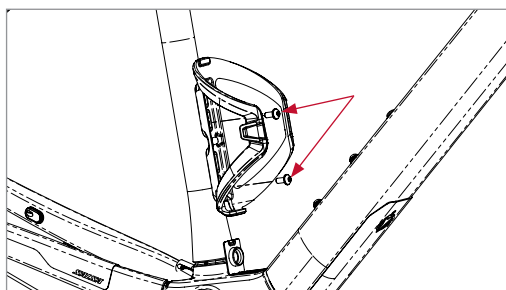

Figure 8
3. Reinstall the bolts to attach the bike holder cage to the frame in the desired location (Figure 8). Torque bolts to 4–5Nm.